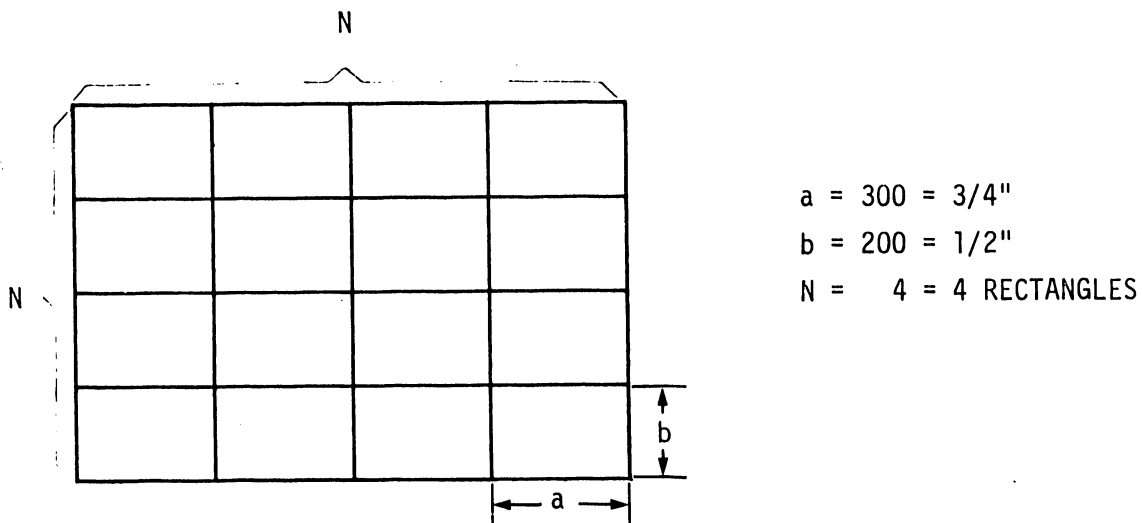

FIGURE 39
2) Example (See result, Figure 39)